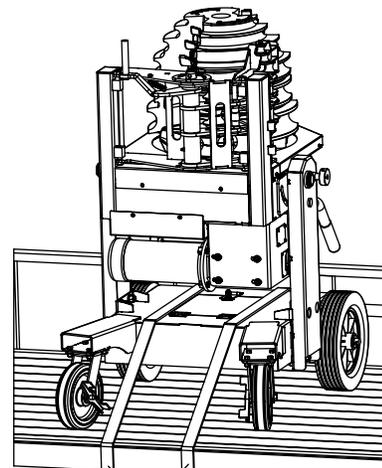

Figure 12b
4. Attach two straps (minimum 1,000 lb. capacity each) across the base of the bender to secure the bender to the trailer. (See Figure 12b).